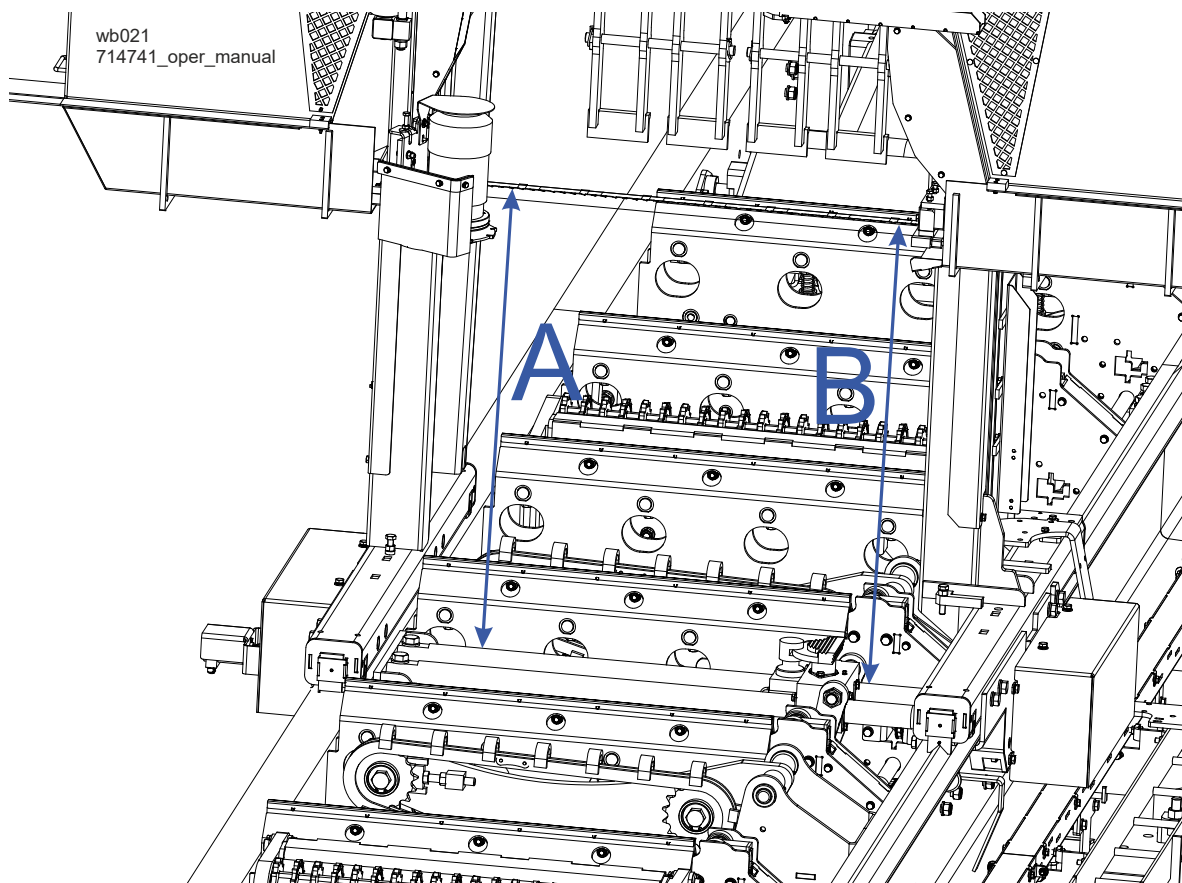

FIG. 6-9
See Figure 6-9 Make sure the blade guide blocks do not touch the blade. Position the saw head over the log clamp. Measure the distance from the rod of the blade clamp near the left (A) and right (B) blade guides. The measurements should be the same. If not, it is necessary to adjust the saw head tilt.